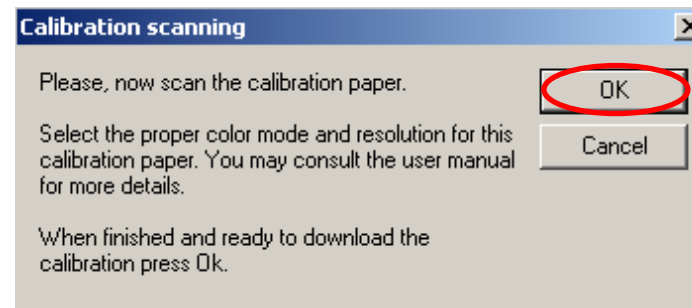

Fig 5
6. After the memory has been formatted the **Calibration scanning** dialog window will appear (Fig 5). Please **disconnect** the DocuPen from the USB cable and position it on top of the **Roller Calibration** sheet. Please scan the sheet in **B&W mode** and **high resolution**.
7. The DocuPen will now save the Calibration image into memory. After the image is saved, please attach the DocuPen to the USB cable. Now press the **Power ON** button on the DocuPen and click the **OK** button within the **Calibration scanning** dialog window (Fig 5).